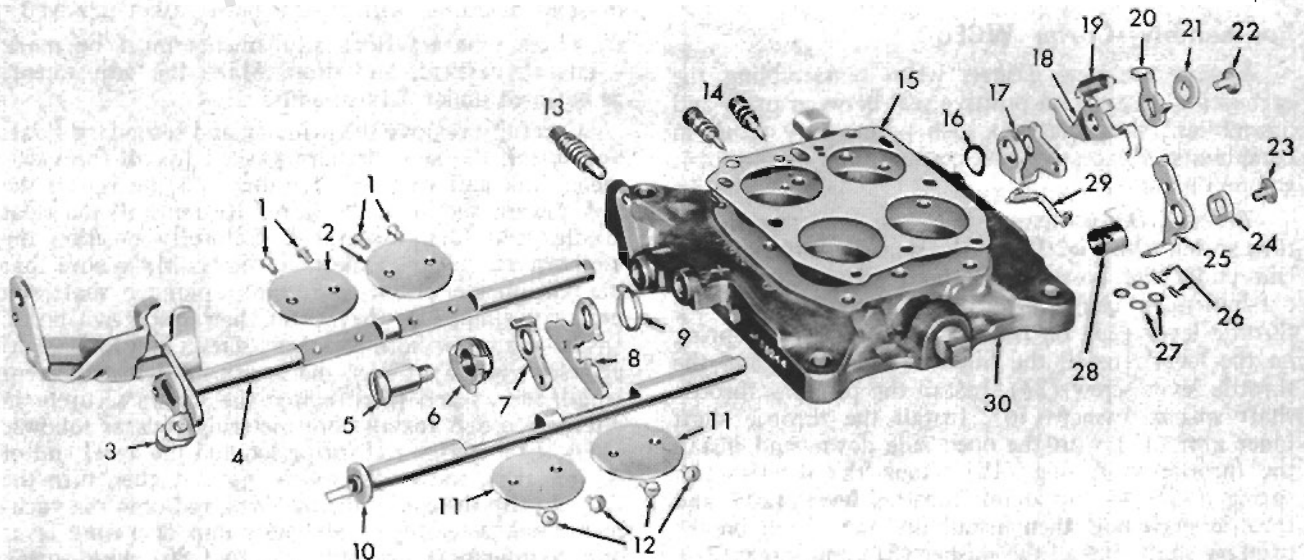

FIG. 93
Throttle Body—Remove the idle adjustment screws and springs (14, Fig. 93). Remove the fast idle cam screw (5) and remove the fast idle cam assembly, which consists of the secondary lockout lever (8), cam trip lever (7), and fast idle cam and spring assembly (6). Remove the primary and secondary throttle con-